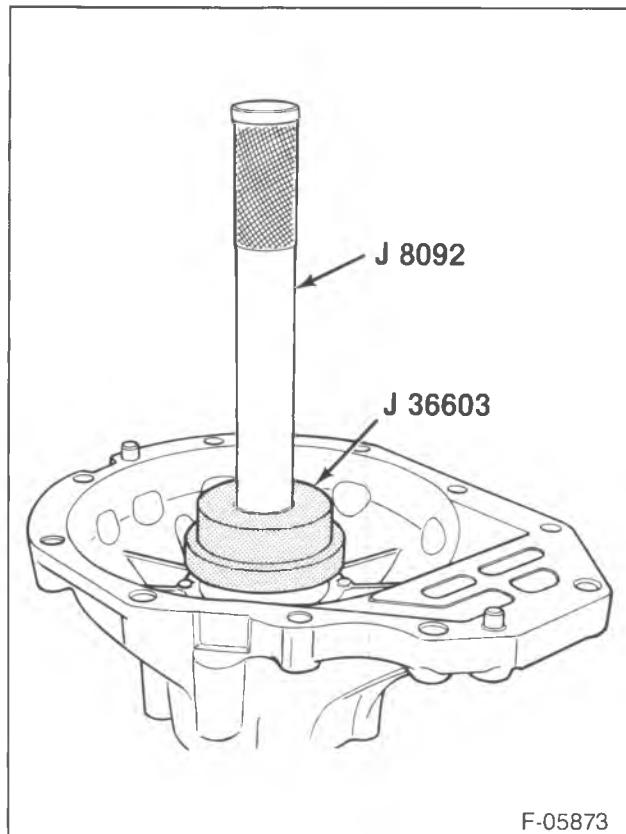

Figure 30—Installing the Side Bearing Cups
4. Side bearing cups (33). Use J 36603 with J 8092 (figure 30).